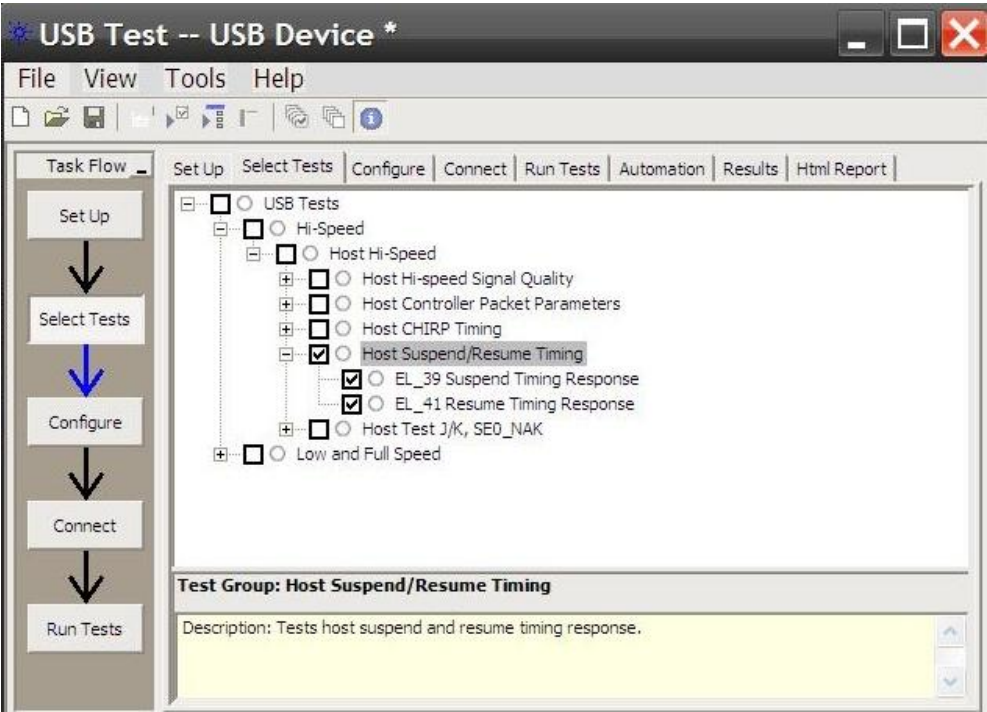

Figure 76. Host Suspend/Resume Timing Test
1. Select the test items in the USB Automated Test software on the oscilloscope as shown in Figure 76, and ensure that the Test Type configuration option is set to Hi-Speed Near End before running the test.